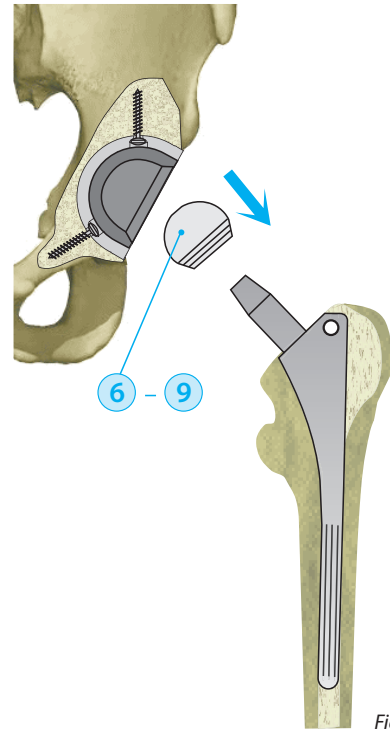

Fig. 5
To carry out the final articulation test, use one of the four plastic test heads – S, M, L, XL ⑥ - ⑨. Based on this test, select the corresponding metallic or ceramic head (Fig. 5).